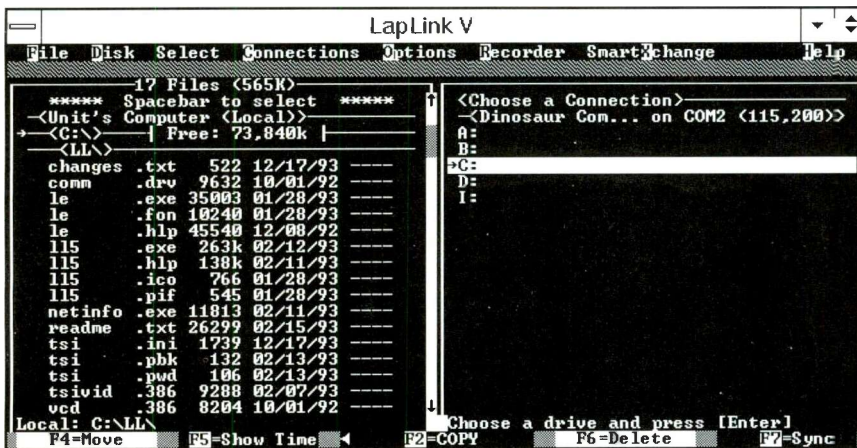

Fig. 2. A screen similar to this appears after you select the name of the target computer.
(1) Specify where the file(s) will be copied or moved to by selecting a target drive and directory. You can change drives by highlighting the computer name and the hitting Enter. Either computer can send or receive files. A screen similar to that shown in Fig. 2 appears after you select the name of the target computer.
In Fig. 2, I've chosen Dinosaur Computer to be the target computer. I can now choose between its available A:, B:, C: and D: drives (I: is a Host Drive for a DoubleSpace drive C: in this computer) and directories. To choose a drive, highlight the drive letter and press Enter. In Fig. 3, you can see that I've selected drive C:.